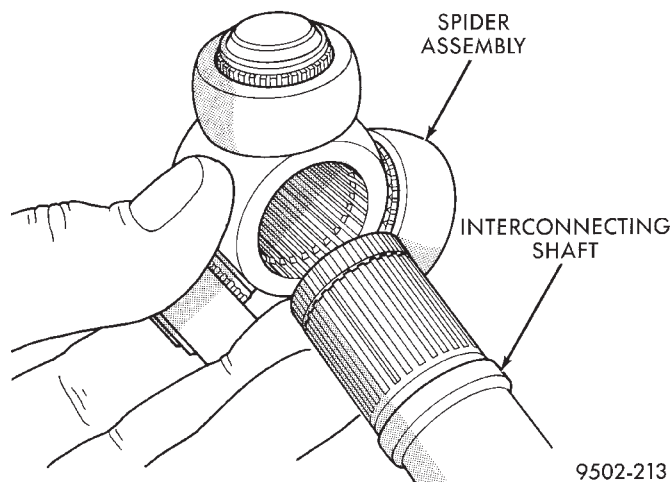
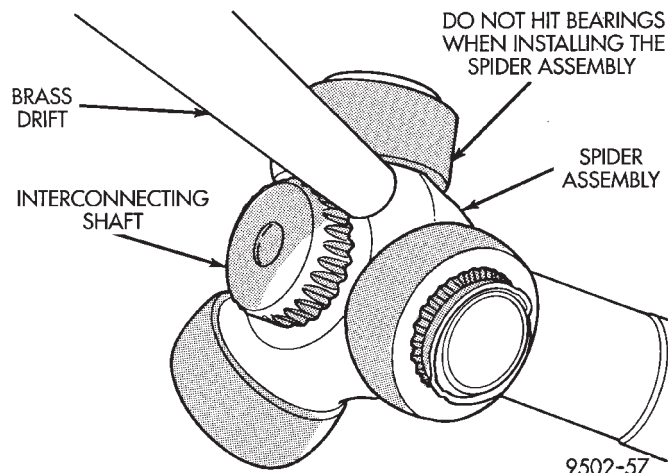

Fig. 31 Spider Assembly Installation on Interconnecting Shaft
Fig. 32 Installing Spider Assembly on Interconnecting Shaft
(2) Install spider assembly onto interconnecting shaft (Fig. 31). Spider assembly must be installed on interconnecting shaft far enough to fully install spider retaining snap ring. If spider assembly will not fully install on interconnecting shaft by hand, it can be installed by tapping the spider body with a brass drift (Fig. 32). **Do not hit the outer tripod bearings in an attempt to install spider assembly on interconnecting shaft.**